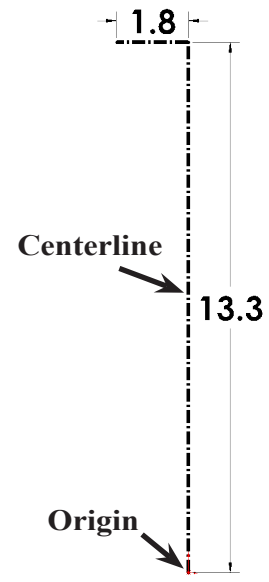
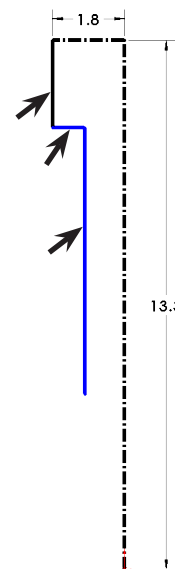

Fig. 2
Fig. 3
Step 3. Click **Centerline**  (S) in the **Line flyout**  on the Sketch toolbar.
Step 4. Starting at the Origin , draw a vertical centerline up from the Origin and a construction line out to the left from the top endpoint of centerline, **Fig. 2**. Use the inferencing line, the dotted line that appears when you draw.
Step 5. Click **Smart Dimension**  (S) on the Sketch toolbar.
Step 6. Dimension the centerline **13.3** and the horizontal construction line **1.8** as shown in **Fig. 2**.
Step 7. Click **Zoom to Fit**  (F) on the View toolbar.
Step 1. Click **Line**  (L) on the Sketch toolbar.
Step 2. Draw the **three lines** as shown in **Fig. 3**.